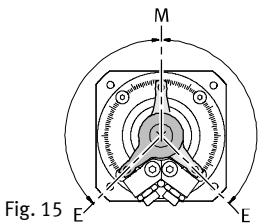

Fig. 15
5. If possible use symmetric angle settings that follow line of symmetry M of the DSM (Fig. 15). These produce a more even movement between right-hand and left-hand swivelling movements.